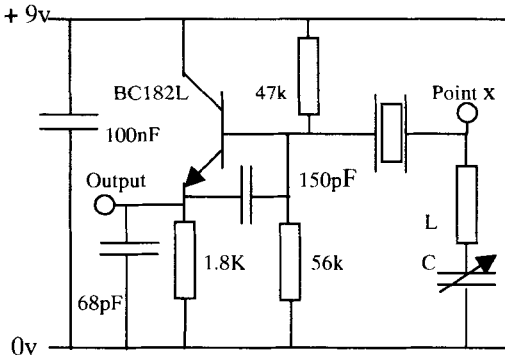

Fig 1. VXO
Adding an inductor is in series with the crystal(s) and the capacitor increases the pulling range, but the circuit becomes more sensitive to stray capacitance around Point x in Fig 1. There is a trade-off between pullability and stability. I have achieved excellent results in VXOs designed for a variability of 2 ppt, and recommend that as a good compromise. You could design for more, but the circuit would begin to behave more like a conventional L-C oscillator, and less like a true crystal oscillator. How far down this road you go is up to you.
These results represent very successful oscillators which are close to the limit to which a single-crystal VXO should be pushed. They are sensitive to stray capacitance around point x on Fig 1. This sensitivity was quantified by setting the oscillator to its mid-frequency and then adding a 2.7pF capacitor between point x and ground. In the oscillator described in Results 4, the frequency shifted by 6.36kHz, whereas the same test with the oscillator yielding Results 1 gave just 200Hz. This might seem alarming, very stable oscillators can nevertheless be built even if only a small amount of care given to rigid construction and shielding.
-Fig. 1 shows the electrical schematic of the ET-1. Please note that the MPF-102 transistor (Radio Shack, 276-2062) is mounted directly on the Triple Pole Double Throw (TPDT) common switch terminals. It is used for both the receiver and the transmitter sections. I selected the FET transistor because it works well in the Regen.